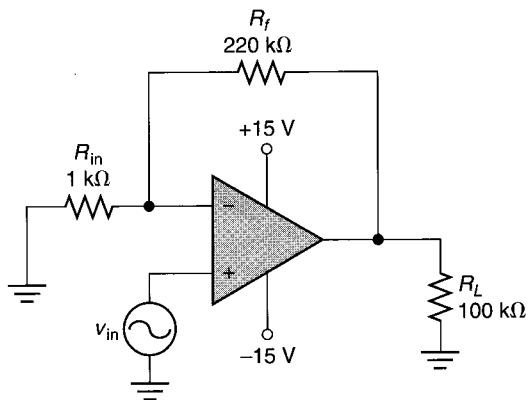

FIGURE 15.53
4. Determine the maximum peak-to-peak output voltage for the amplifier in Figure 15.53.